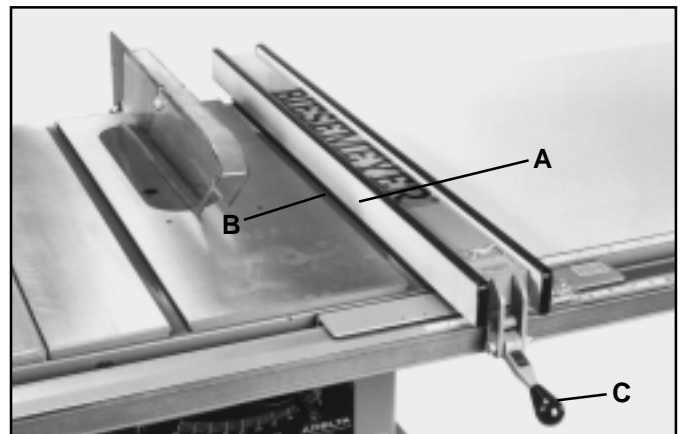
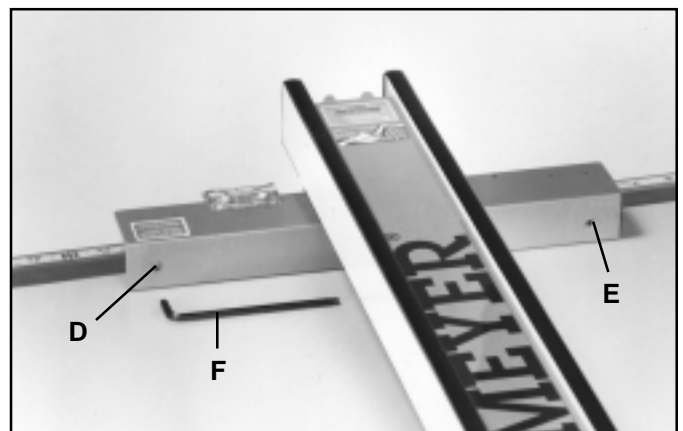

Fig. 29
Fig. 30
The fence (A) Fig. 29, must be adjusted so it is parallel to the miter gage slots (B). To check and adjust, move fence (A) until the bottom edge of the fence is in line with the edge of one of the miter gage slots as shown, and push down on the fence clamping lever (C). Check to see if the fence (A) is parallel to the miter gage slot the entire length of the table. If an adjustment must be made, lift up fence locking lever (C) and raise the fence up off the guide tube, as shown in Fig. 30. Slightly tighten or loosen one of the two adjusting screws (D) or (E) Fig. 30, using a 3/16" allen wrench (F), not supplied. Replace the fence on the guide tube and check again to see if the edge of the fence is parallel with the miter gage slot the entire length of the slot. Repeat this adjustment until you are sure the fence is parallel with the miter gage slot. **IMPORTANT: VERY LITTLE MOVEMENT OF THE SCREWS (D) AND (E) FIG. 30, IS NECESSARY TO ADJUST THE FENCE PARALLEL WITH THE MITER GAGE SLOT.**